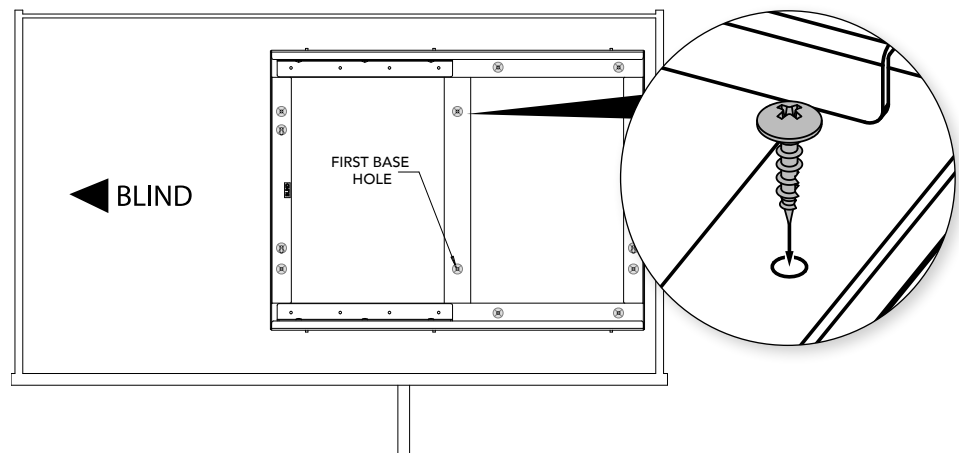

Fig. 3
Flip Frame (B) on its back and move pre-installed left wheel to the top position as shown for a Blind Left/right Door (See Fig. 3).